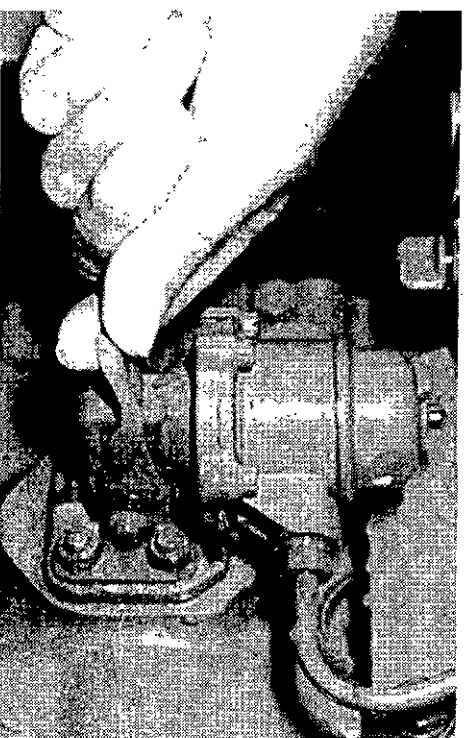

Fig. 16 Priming lever on fuel lift pump
- 1 To remove air from the fuel filter loosen the vent plug, or if this is not fitted, the return to tank banjo connection in the top of the filter. This will reduce the time needed to fill the filter with fuel when the priming lever of the fuel lift pump is operated (see fig. 16).
- 2 Where the fuel filter is fitted lower than the fuel injection pump, loosen the inlet connection at the fuel pump (see fig. 17) and operate the lift pump to remove any air (see fig. 16).
5 Operate the priming lever on the fuel lift pump (see fig. 16) until fuel, free of air, comes from all vents.